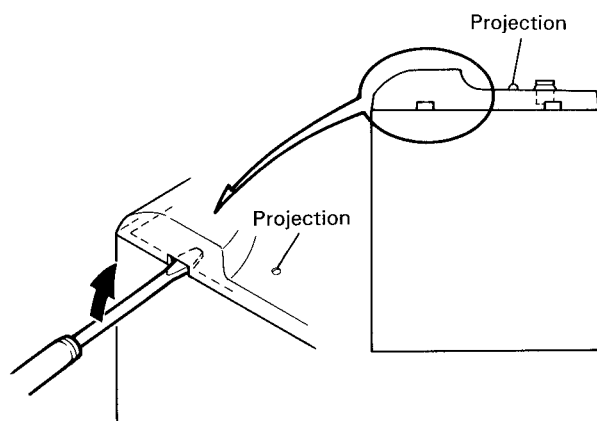

Fig. 7-26
4. Insert an ordinary (—) screwdriver into the left hole shown in Fig. 7-26 and set its edge just under the small projection. Keeping this position, slowly turn the screwdriver to push the front panel gently upward with care as described in the above note.
5. When there is a gap between the front panel and the speaker box, insert something like a UM-3 battery into it as shown in Fig. 7-26.
7. In order to prevent the front panel from damage, insert an ordinary screwdriver between the front panel and the acrylic plate as shown in Fig. 7-26, then lift the front panel upward using the front baffle plate as a fulcrum.
9. For removing the speaker unit, remove four screws ④ for the full range speaker ⑨.